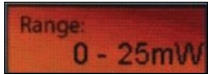

Figure 4
- Select a lambda from the list, or touch "edit nm" to input the wavelength you need (figure 4). The wavelength must be within the available range that is shown at the top of the wavelength menu.